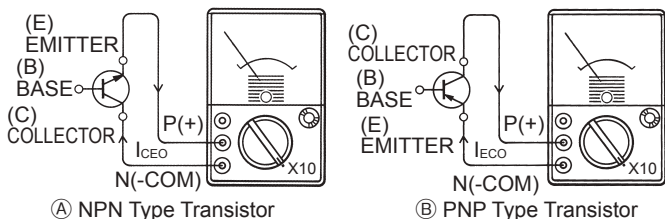
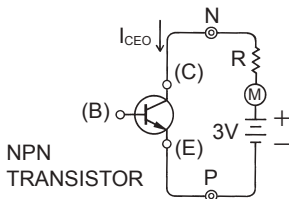

Fig. 5
Fig. 6
- (1) Use the resistance measuring ranges to test transistors.
- (2) Insert the red and black test leads into the P(+) and N(-COM) terminals respectively.
- (3) With the tips of the test leads shorted together, turn the ohm zero adjust knob so that the meter pointer lines up with the "0" mark on the right end of the ohm scale.
- (4) Connect the test leads to the transistors according to their polarity, as shown in Fig. 5 Ⓐ for the NPN transistor and Fig. 5 Ⓑ for the PNP transistor.
- (5) Fig. 5 may be represented by an electrical circuit (Fig. 6).